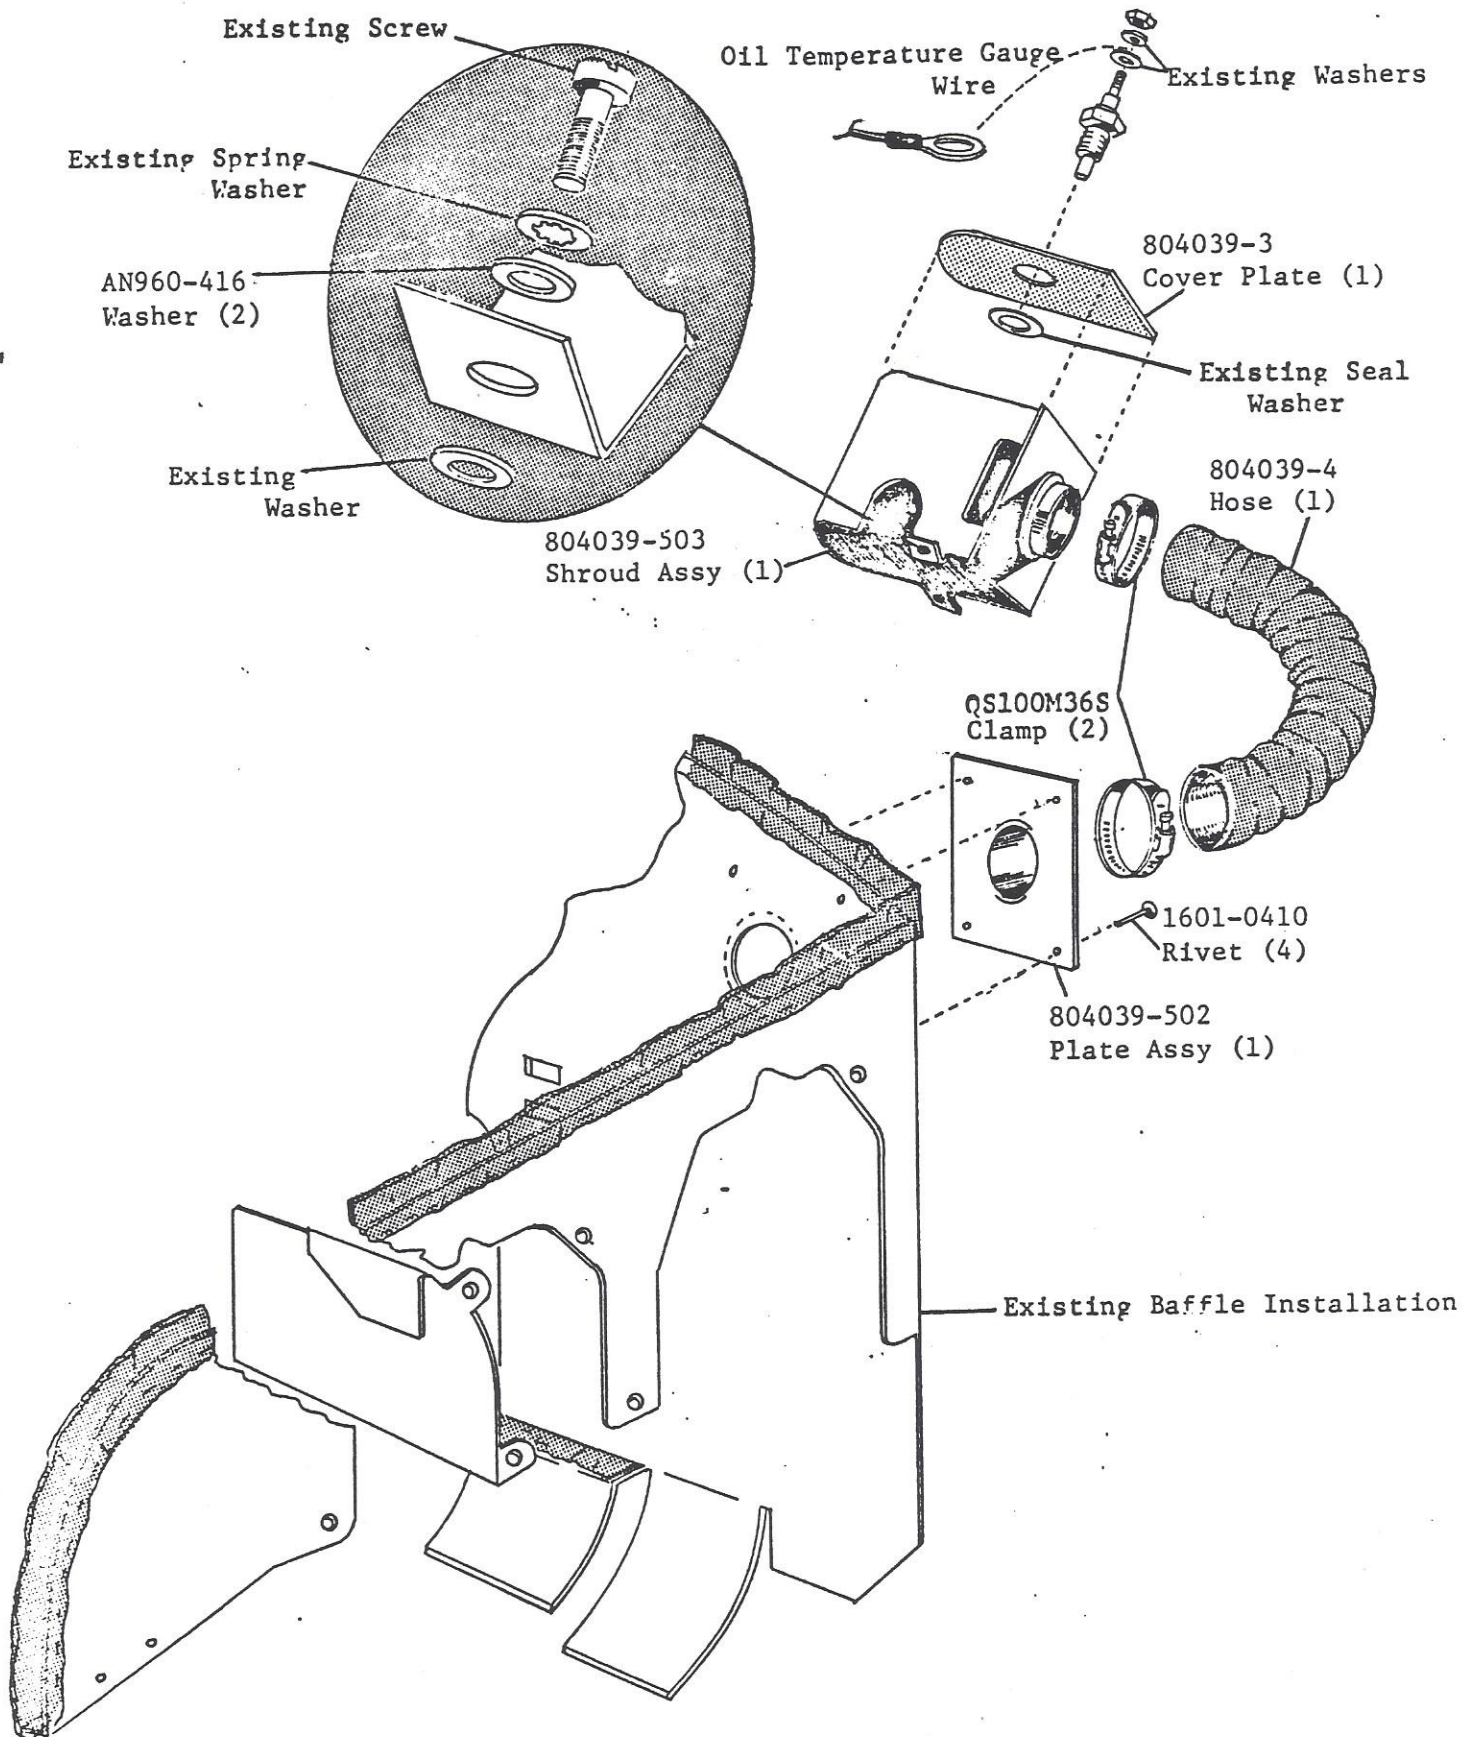

FIGURE 1
3. Remove the top and bottom two (2) screws which secure the screen housing to the engine accessory case. Fit shroud assembly (804039-503) over the screen housing, ensuring that the existing washers are below the housing feet. Add the two kit washers (AN960-416) above mount feet and the existing spring washers. Replace screws to the correct torque value (50/70 in. lbs.). See inset on figure 1.